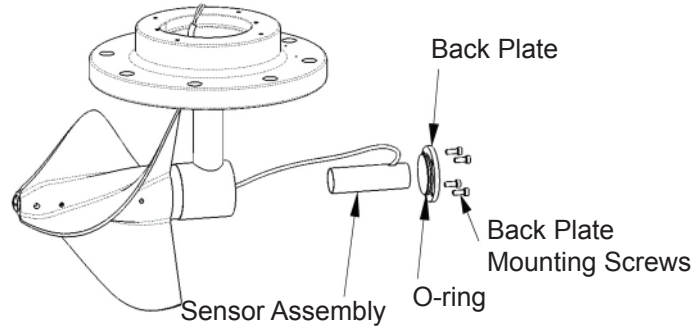

Figure 11: Propeller And Separator-spindle Assembly
Step 9. For ML and LP meters: push the sensor assembly through the back of the gearbox all the way into the separator/spindle assembly. Rotate the sensor assembly so that the sensor cable can be fed through gearbox up over the meter head. Put a thin film of silicon grease on the O-ring and secure the back plate of the gearbox with four screws (Figure 11).